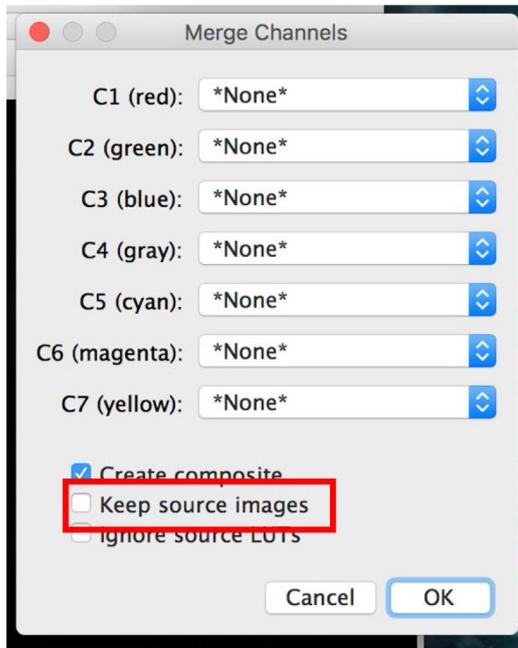

Figure 21. Merge your images
16. Click on 'Merge Channels' and select the required picture for each color. Click 'OK' (Figure 21).
If you do not want the software to close all your opened pictures, make sure the 'Keep source images' check box is checked (Figure 21).